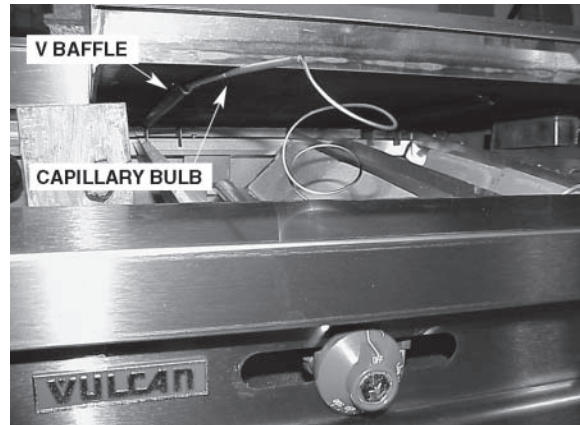

Fig. 5
1. Uncoil a few turns (only enough to reach into the V-baffle) of the bulb and capillary assembly for each griddle thermostat (Fig. 5).